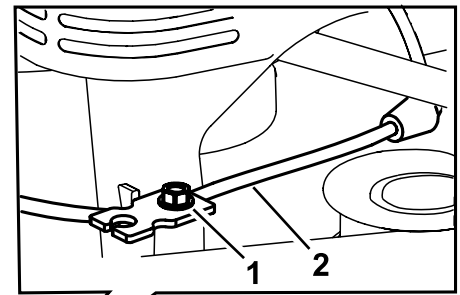

Figure 47
5. Loosen the cable-clamp screw (Figure 47).